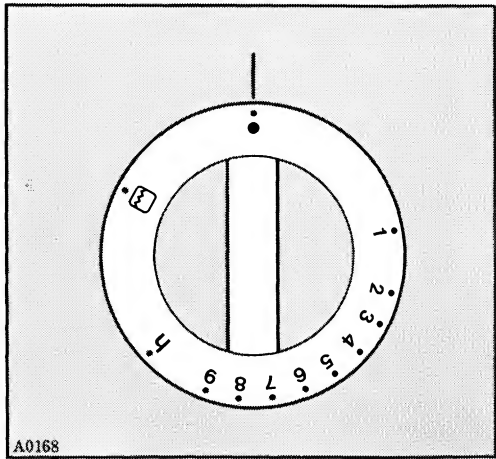

Fig. 2
2. Firmly depress the oven control knob (fig. 2) and turn it anticlockwise to the maximum setting and at the same time operate on the relevant pushbutton marked by a small electric spark. Keep the oven control knob depressed for 10-15 secs.